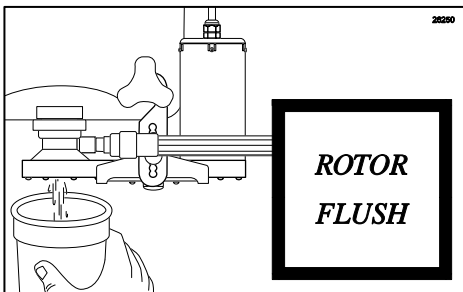

Figure 175
4. On occasion it may be desirable to sanitize the Injector Head between servings. Simply hold a container under the dispensing spout and press ROTOR FLUSH. (See Figure 175.)